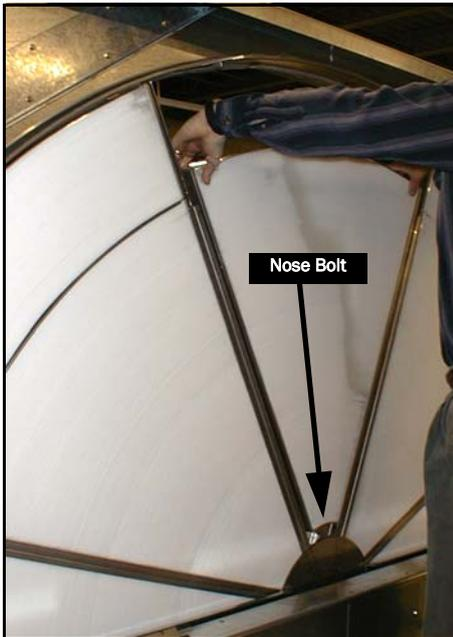

Figure 25 Remove nose bolt and remove interior segment.
- 8 To remove the inner segment, support segment with one hand while removing 1/4-20 flat head nose bolt in the hub with a 5/32-inch Allen wrench, Figure 25. **WARNING: AS SOON AS THE NOSE BOLT IS REMOVED, THE SEGMENT IS NO LONGER SECURE.**
- 9 With weight of segment resting in the lower spoke pocket, carefully slide segment out from between hub plates, Figure 25.
- 10 Rest segment on lower spoke, grasp nose of segment with one hand and the outer corner of the segment in the other hand, then remove segment from wheel, Figure 25.
- 11 Reinsert 1/4-20 bolt in segment nose bracket, Figure 25, to avoid loss.
- 2 Remove ¼ - 20 flat head bolt from segment nose bracket, Figure 25.
- 3 Center and rest segment on lower spoke. Slide inner segment along spokes until nose bracket contacts stop in hub plate, Figure 25.
- 4 Insert nose bolt and tighten until bolt is firmly seated, Figure 25.